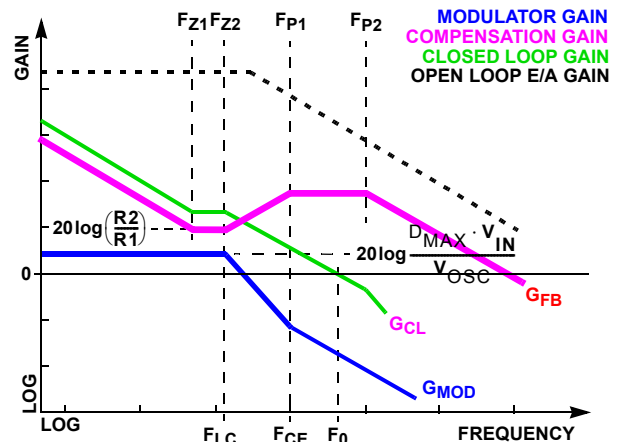

FIGURE 8. ASYMPTOTIC BODE PLOT OF CONVERTER GAIN
Figure 8 shows an asymptotic plot of the DC/DC converter's gain vs frequency. The actual Modulator Gain has a high gain peak dependent on the quality factor (Q) of the output filter, which is not shown. Using the previously mentioned guidelines should yield a compensation gain similar to the curve plotted. The open loop error amplifier gain bounds the compensation gain. Check the compensation gain at F_{P2} against the capabilities of the error amplifier. The closed loop gain, G_{CL} , is constructed on the log-log graph of **Figure 8** by adding the modulator gain, G_{MOD} (in dB), to the feedback compensation gain, G_{FB} (in dB).